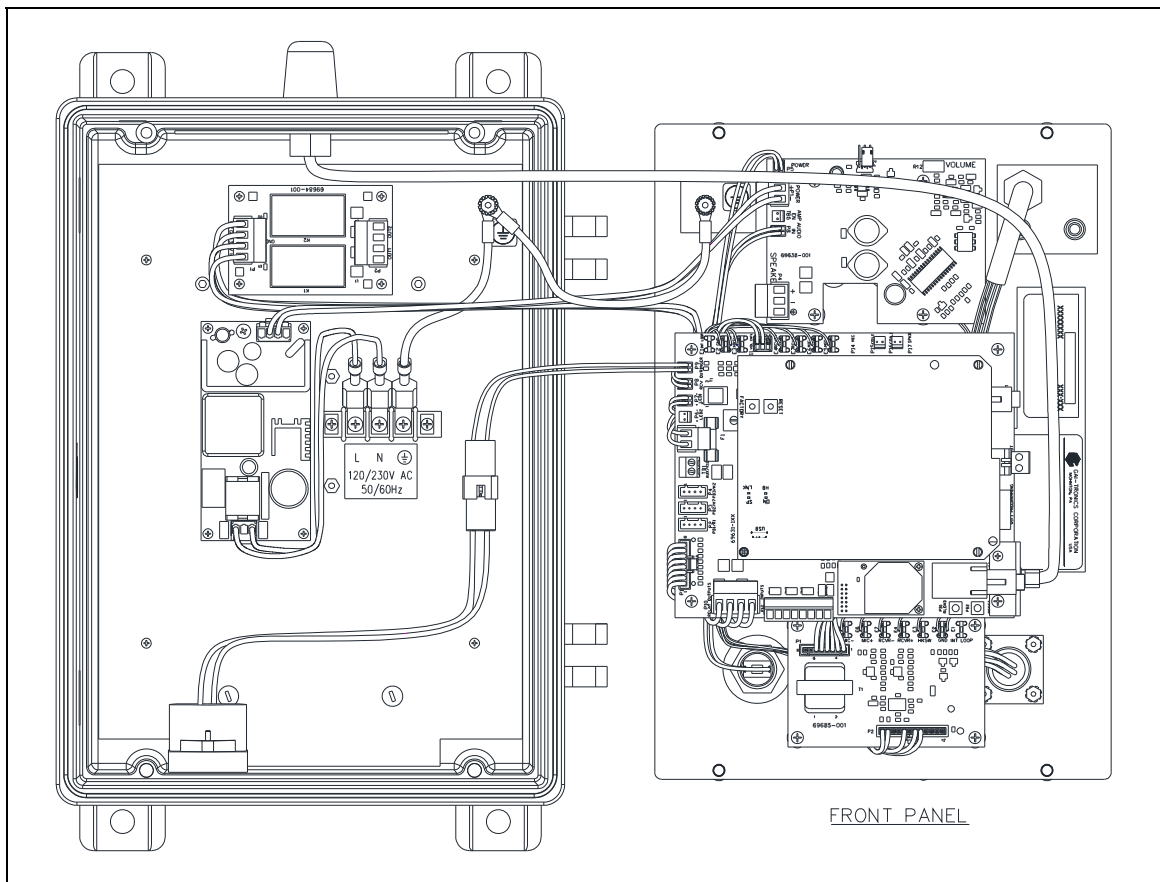
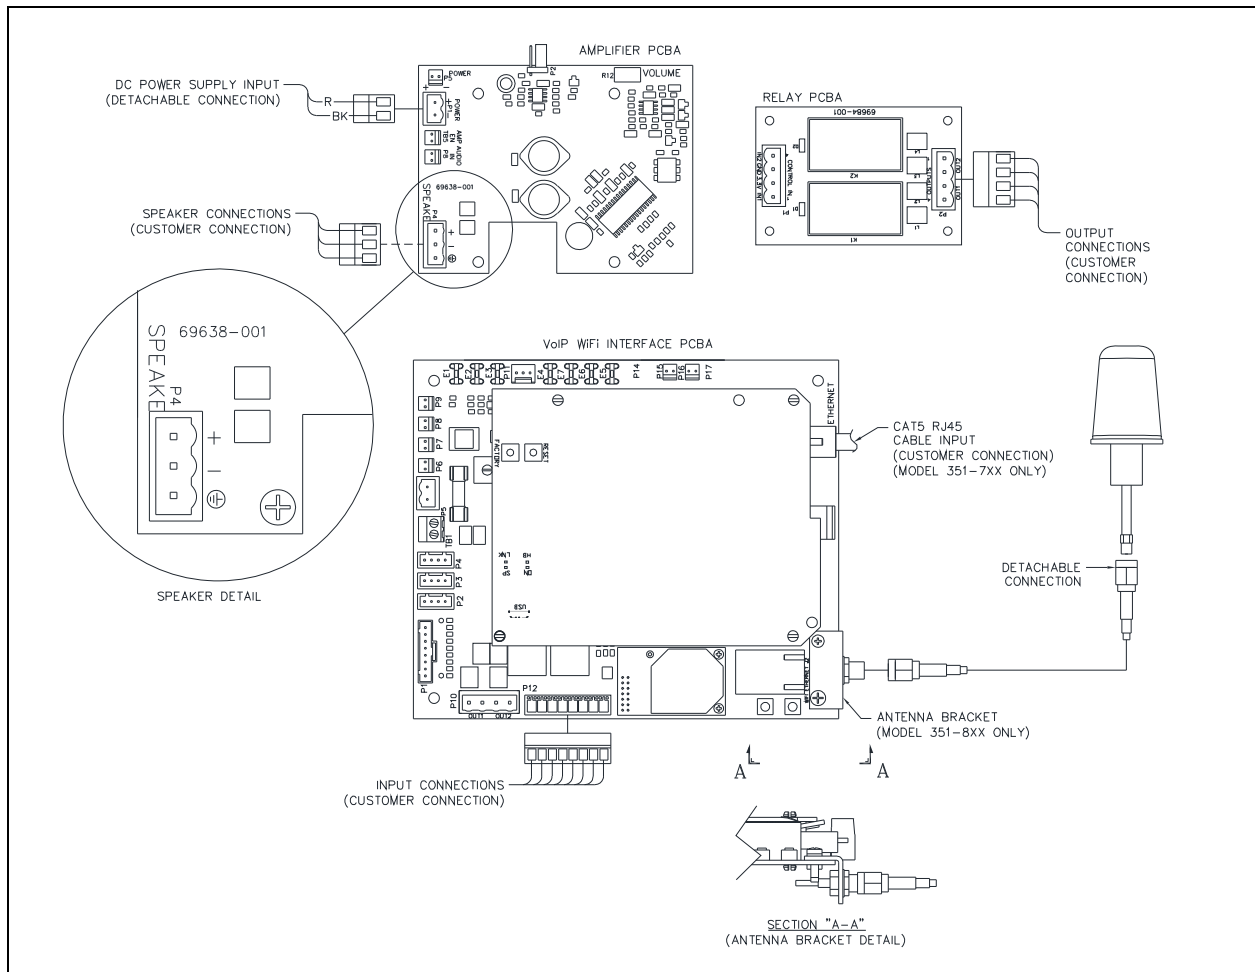

Figure 6. Installation and Maintenance Configuration
Figure 7. Internal PCBA Connections
Keep all wiring connected (see Figure 6).
1. *For wired versions:* plug the incoming Category 5 data line into the network RJ45 jack, located on the underside of the VoIP circuit PCBA (see Figure 6 and Figure 7).
5. Install all additional connections as indicated in the following subsections (see Table 3 and Figure 7).
Connect a Category 5 or better UTP cable with an RJ45 connector between the LAN (Local Area Network) and the VoIP PCBA (see Figure 7). The RJ45 jack is located on the underside of the VoIP PCBA.
1. Terminate the inputs to terminal block P12 (see Figure 7).
1. Terminate the outputs to connector P2 on the Relay PCBA (see Figure 7).